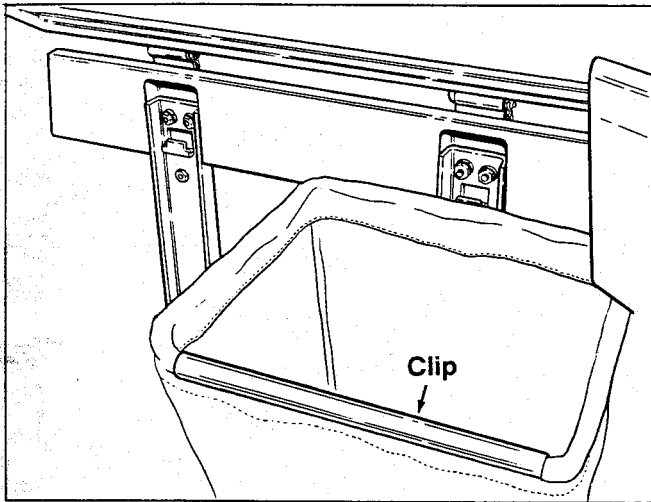

Figure 37.
- Position the white clip (figure 37) along back edge of bag.
- Hang the bags onto the frame, by hooking onto slotted bracket (figure 37).